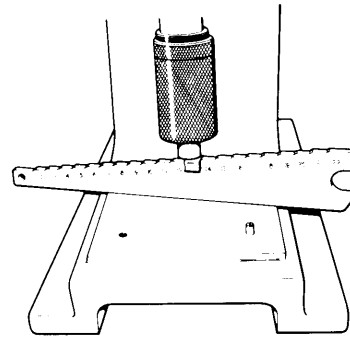

Figure 2
6. Adjust the press shut height for a setting of 21 for Scotchflex presses 3440, 3440A, and 3640; or a setting of 21½ for Scotchflex presses 3335, 3335-1, 3339, 3339-1 (Figure 2). For the adjustment procedure, use Scotchflex Shut Height Gauge 3436-1 or 3436-1A. **Reference setting from press table.**